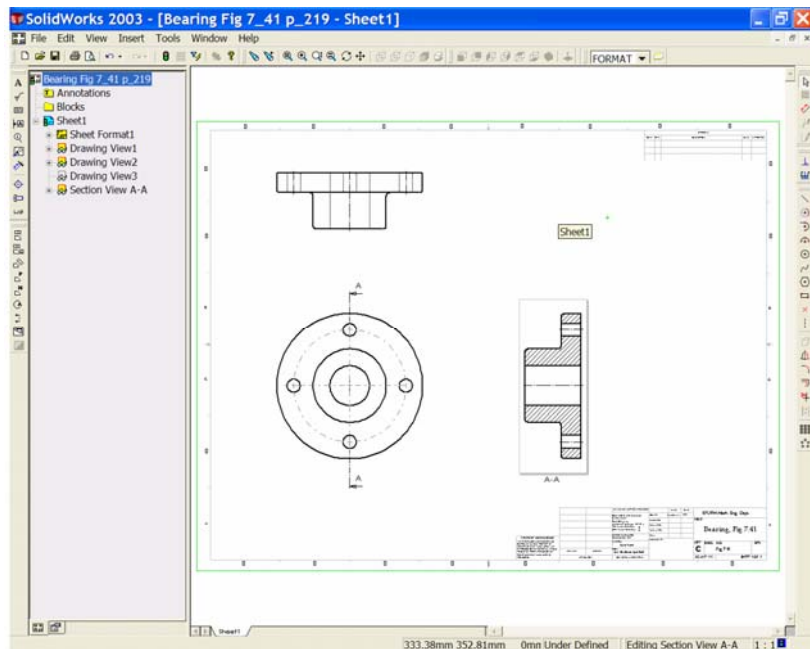

Figure 9
13. Now we need to add centre lines to the views. Activate the section view and select '**Centreline**' from the '**Annotations**' toolbar. Centrelines are placed through the cylindrical parts. Switch on 'Hidden Edges' for the Plan and repeat the procedure for the Plan. See Figure 9.